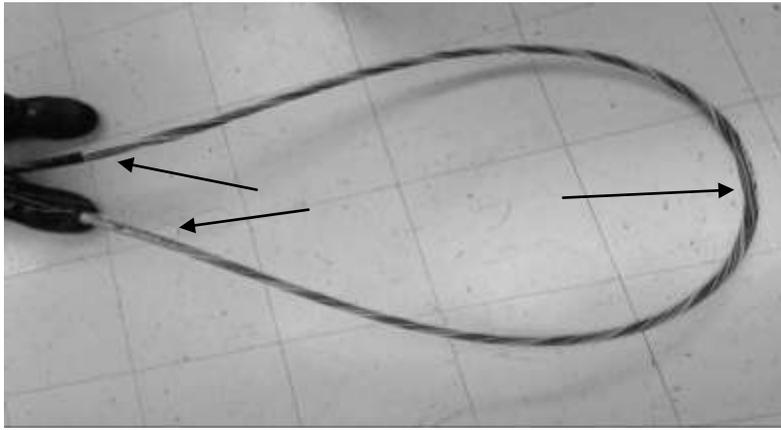

Figure 45 – Remove about 96” of cable jacket to expose three ROL locations indicated by the arrows.
7.1 Figure 45 shows a dual layer cable after the outer jacket, armor layer, aramid strength members, and binder threads have been removed to expose the outer layer of buffer tubes. This step corresponds to the completion of Section 6.23 described above. For a dual layer cable, the distance between the reverse-oscillating-lay (ROL) locations in the outer layer is typically about 45". Therefore, about 96" of cable jacket should be removed to expose three ROL locations as shown in Figure 45.